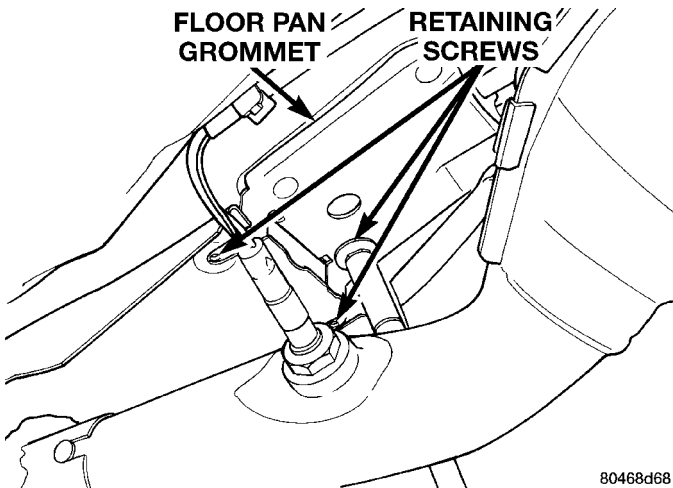

Fig. 14 Grommet Retaining Screw (Underbody)
(10) Disconnect shift cables from shifter. Pry with equal force on both sides of shifter cable isolator bushings to avoid damaging bushings.
(11) Lift vehicle on hoist. Remove self-tapping screw securing grommet plate to underbody heat shield and floor pan (Fig. 14).
(12) Detach cables from cable support clip in tunnel above exhaust catalyst.
(13) Remove shift cable assembly from vehicle.